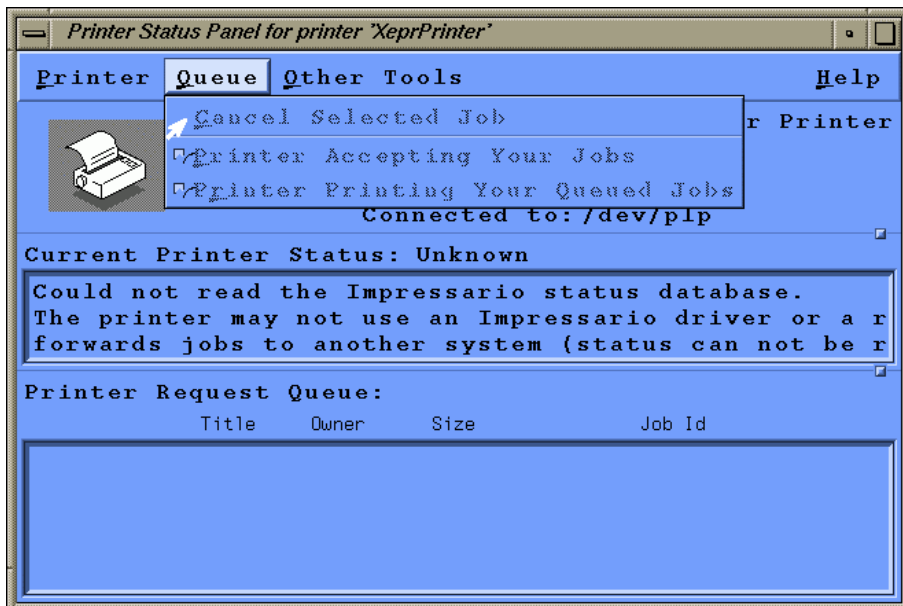

Figure 15-17 Removing print jobs.
4. **Remove all print jobs.** Highlight the job in the Printer Request Queue box and click Queue > Cancel in the menu bar to remove the print job from the queue. You need to remove all the jobs in the queue. (See Figure 15-17.)